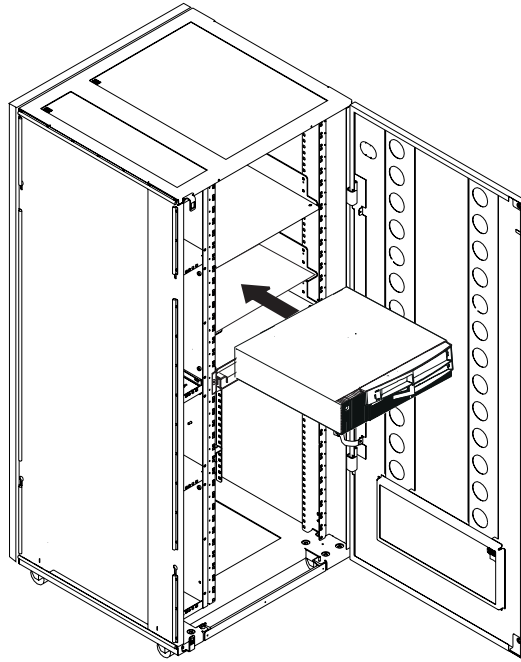

Figure 1-7. Installing the Service Processor Unit in the Controller Expansion (Front Side)
12. Slide the &SO. unit on the brackets as shown in Figure 1-7 on page 1-13.